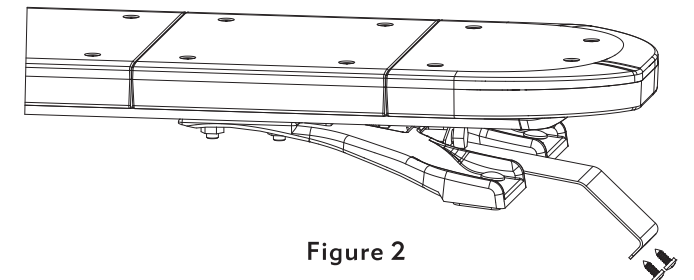

Figure 2
- Using the two pilot holes at the end of the hook bracket as a template, drill 2 holes in the roof using the appropriate size drill and secure the bracket to the vehicle with tapping screws on each side. See figure 2.